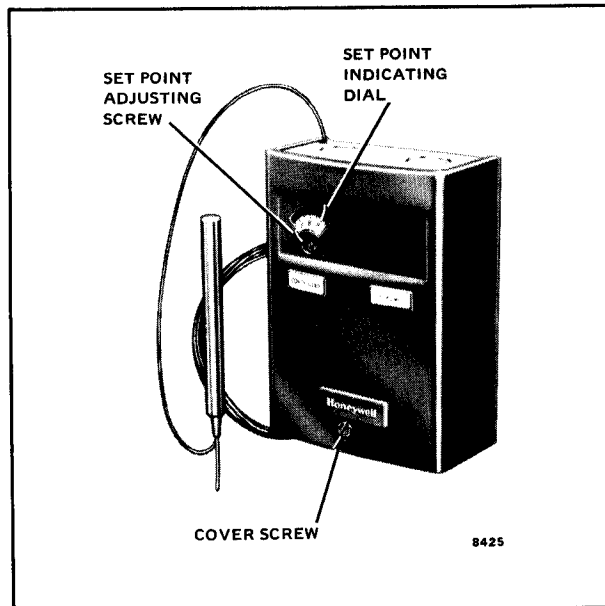

FIG. 12—ADJUSTING THE SET POINT ON A T991E OR F.
SET POINT (FIG. 12)
To adjust the end switch, *disconnect all power* to the T991, loosen the cover screw (Fig. 12), and remove the cover. The adjustment screw is on the side of the switch below the terminals.
1. Disconnect all power to the controller, loosen the cover screw (Fig. 12), and remove the cover.
2. Disconnect all power to the controller, loosen the cover screw (Fig. 12), and remove the cover.
4. Rotate the T991E temperature dial clockwise , if necessary, to obtain a zero (0) reading on the ohmmeter.
4. Disconnect all power to the controller, loosen the cover screw (Fig. 12), and remove the cover.
6. Rotate the T991F temperature dial clockwise ↻, if necessary, to obtain a zero (0) reading on the ohmmeter.